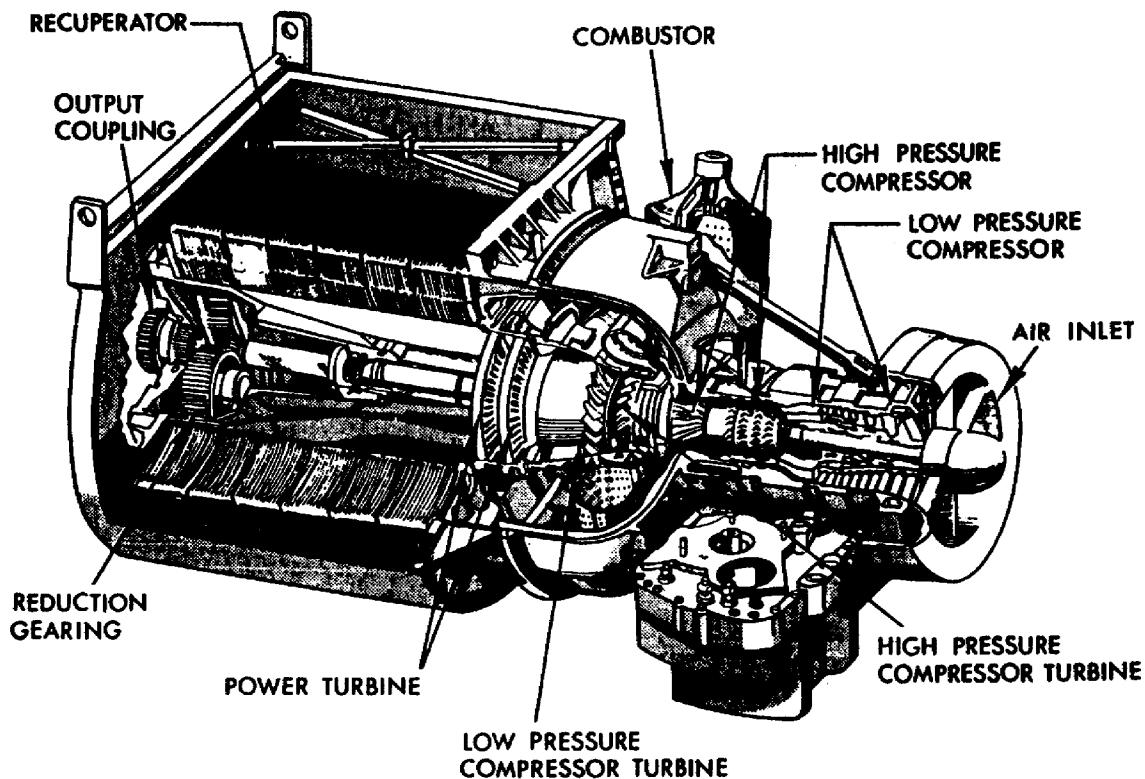

Figure 1-16. Diesel Turbine Engine Components
(1) Turbine engine systems. The turbine engine system consists of air and fuel control components, combustion chamber, turbines, and an exhaust system (Figure 1-16).